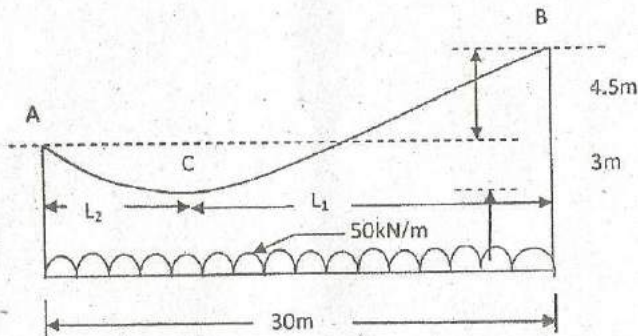

Figure 3
7. An unstiffened suspension cable carries a uniformly distributed load of 50 kN/m over a span of 30 m as shown in Figure 3. The suspension cable is supported on frictionless rollers, fixed to the piers. The anchor cables are inclined at 30° to the horizontal. One pier is 4.5 m below the other and the maximum dip of the cable at the lowest point is 3 m below the lower pier. Calculate.